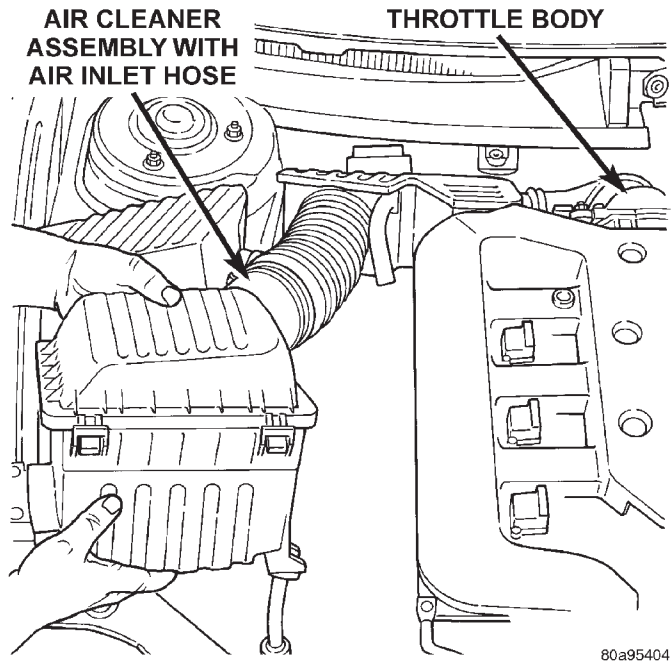
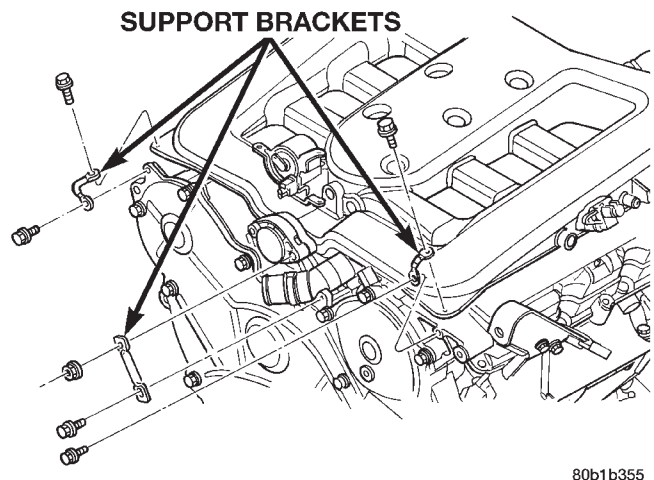

Fig. 12 Air Cleaner Housing and Inlet Hose
Fig. 13 Intake Manifold Supports—Front
- (1) Disconnect negative cable from remote jumper terminal.
- (2) Remove air cleaner housing and inlet hose (Fig. 12).
- (3) Remove throttle and speed control cables from throttle arm and bracket.
- (4) Disconnect electrical connectors from the following sensors and actuators (Refer to Group 14, Fuel System for component locations):
- (5) Disconnect vacuum hoses from the following:
- (6) Remove right and left side intake manifold supports.
- (7) Remove support brackets at intake manifold front corners and at MTV (Fig. 13).
(5) Install right and left side intake manifold supports.
(6) Install manifold support brackets at front corners and at MTV (Fig. 13).
(7) Tighten fastener attaching throttle body to support bracket.
(8) Connect vacuum lines to: Secondary Runner Valve, Speed Control Reservoir, and Positive Crankcase Ventilation (PCV) Valve.
(9) Connect electrical connectors to: Intake Air Temperature/Manifold Absolute Pressure (TMAP), Idle Air Control (IAC), Throttle Position Sensor (TPS), and Manifold Tuning Valve (MTV).
(10) Install EGR tubes to intake manifold. Refer to Group 25, Emission Control System.
(11) Install throttle and speed control cables to bracket and throttle arm.
(12) Install air cleaner housing and inlet tube.
(13) Connect negative cable to remote jumper terminal.